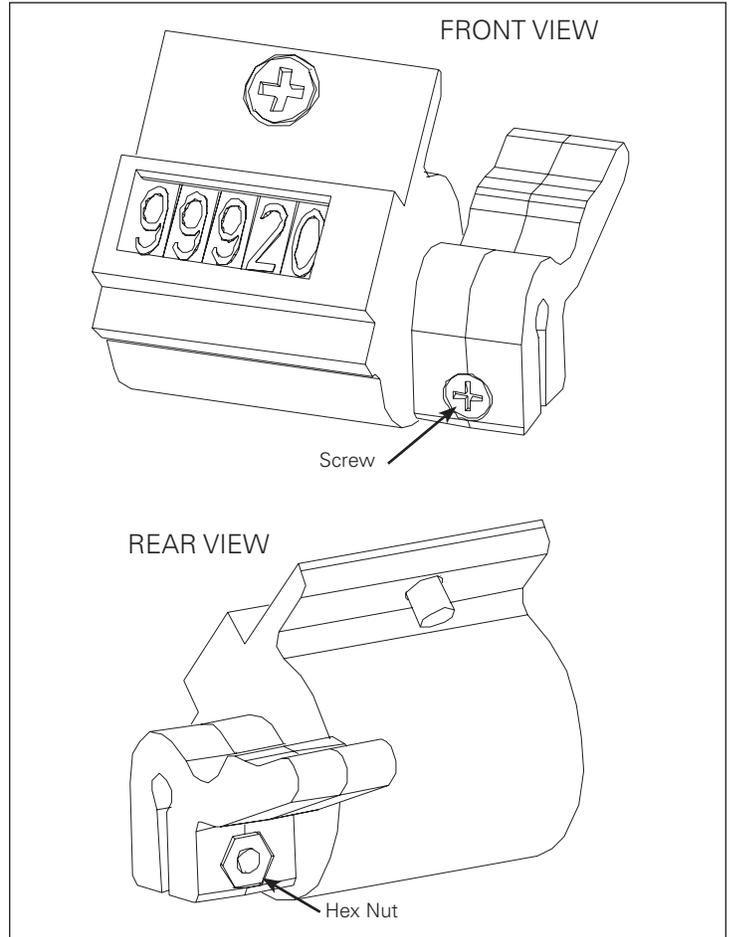
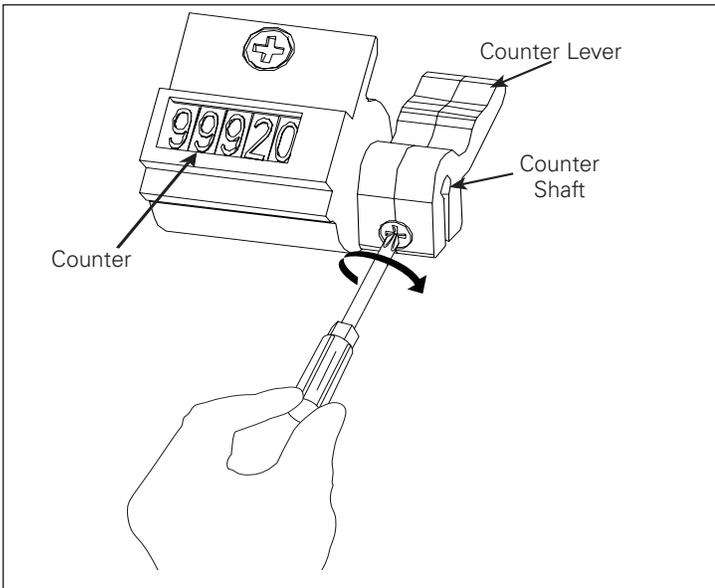

Figure 3. Counter Lever Mounted with Screw and Hex Nut
Figure 6. Step 3
- Counter lever, screw (M2 x 8) and hex nut (M2) (**Figure 3**)
**Step 3:** If the counter lever is already loosely installed on the counter shaft as shown in **Figure 3**, skip Step 3 and go to Step 4. If the counter lever is not loosely installed on the counter shaft, proceed with Step 3. Loosely install the counter lever on the counter's shaft (**Figure 6**) using the provided M2 x 0.4 screw and nut. The screw should not be torqued tight at this point to permit movement of the counter lever on the shaft.
**Step 2:** Loosen the counter lever screw by one turn. Refer to **Figure 6**.